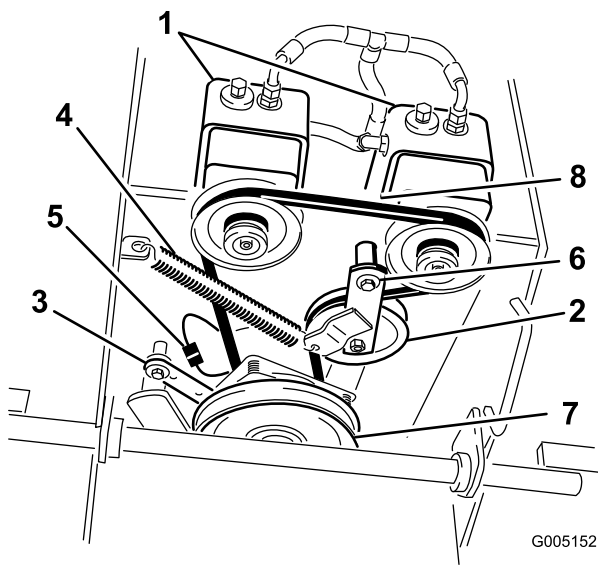

Figure 48
6. Disconnect the clutch retainer from the engine deck (Figure 48).
7. Unhook the idler spring from the frame (Figure 48).
9. Install the idler spring between idler arm and frame bracket (Figure 48).
10. Install the clutch retainer to the engine deck (Figure 48).